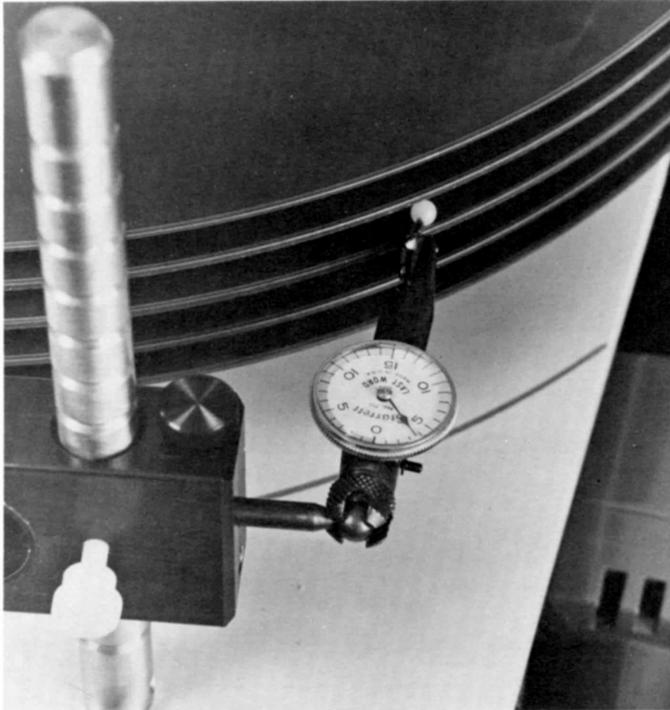

Figure 11.
1. Insert the appropriate "A" or "B" post in the hole in the deck, as illustrated in Figure 11.